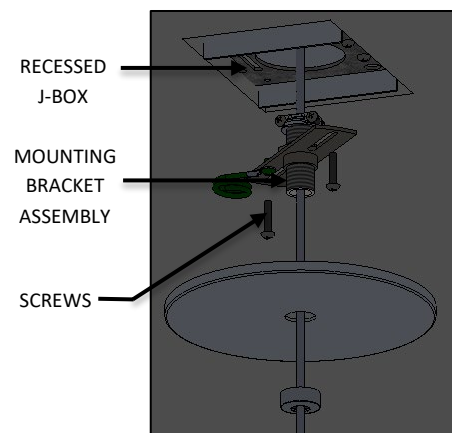

FIG. 30 – FINIAL ASSEMBLY
- Make wire connections between DRIVER and FIXTURE CORD, all wire connections in the inside the junction box in accordance with the NATIONAL ELECTRICAL CODE and all applicable LOCAL AND STATE CODES. See WIRE DIAGRAM below as shown in FIG.30.